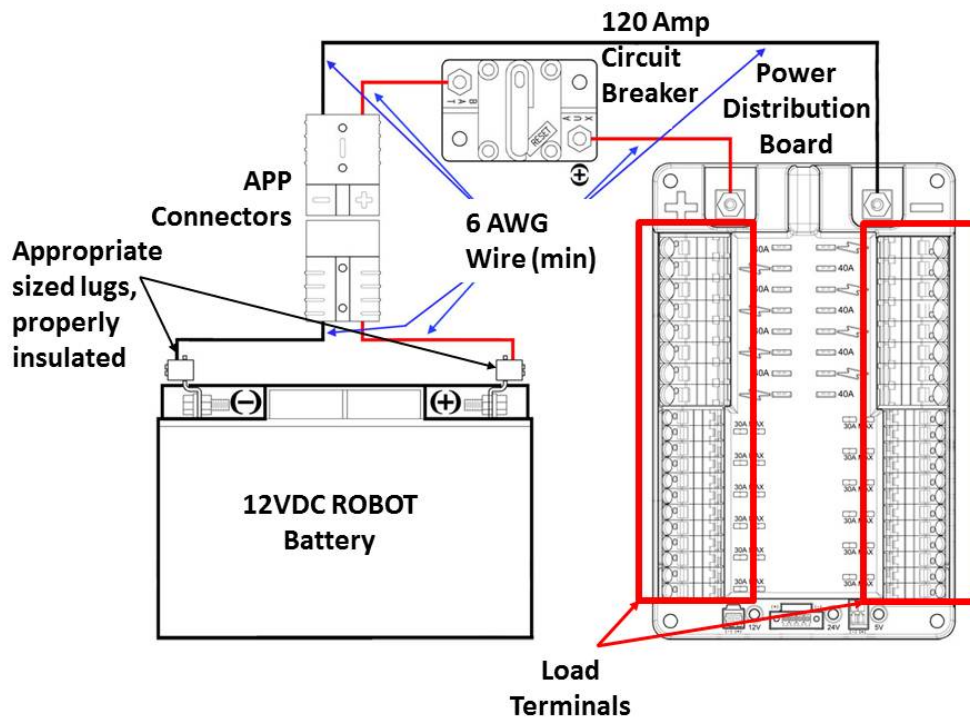

Figure 4-7: Main Power Distribution
Distribution (PD) Board shall be connected as shown in Figure 4-7.